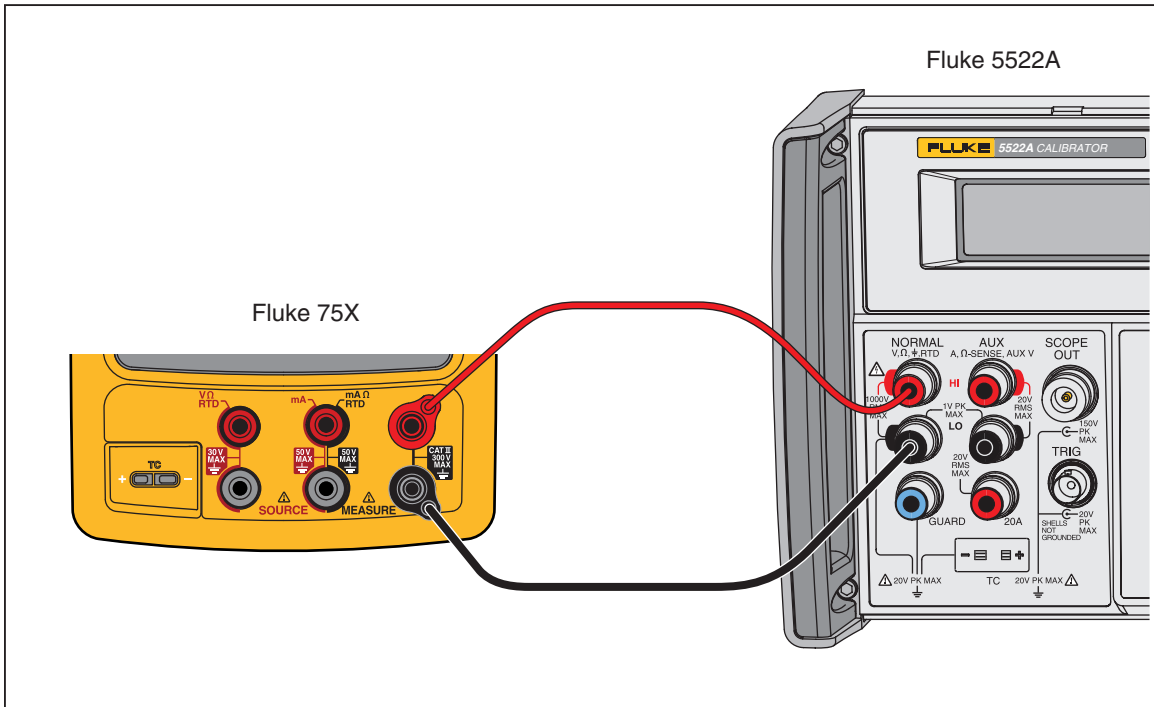

Figure 1. DC Volts and AC Volts Measurement Connections
1. Connect the UUT to the 5522A as shown in Figure 1.